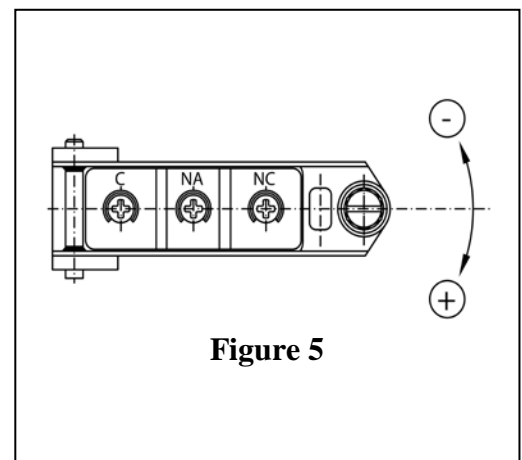

Figure 5
Pressure switches type: 3.26 - 3.27 - 3.30 and differential pressure switches model 3.28 - 3.29 are provided of internal terminal blocks with screws terminals (Figure 5) with cables whose maximum section should be di 2.5 mm² and terminal block for ground connection both internal and external provided of wire terminal.
1. Connect the micro-switch to warning lamp or a sound source as shown in fig.5 in order to have a clear reference signal of the performance itself;